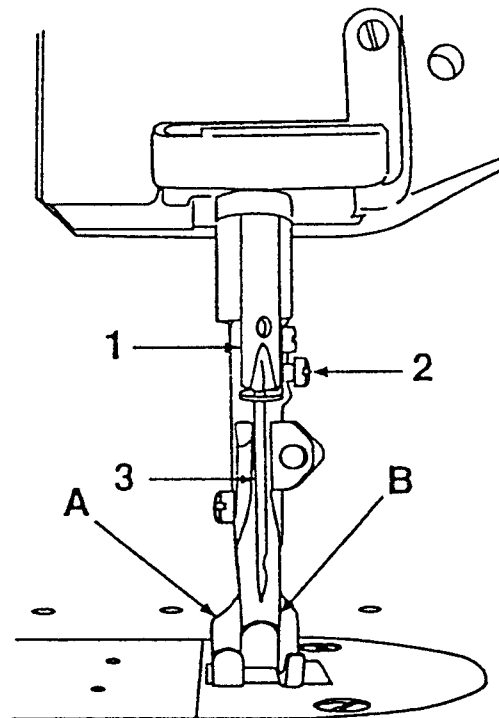

Fig.6
NEEDLE (Fig.6)
2. When altering the lift of the lifting presser foot (A, Fig.6) unequally against that of the vibrating presser foot (B, Fig.6) or vice versa, see the instructions "ADJUSTING THE HEIGHT OF THE PRESSER FEET".